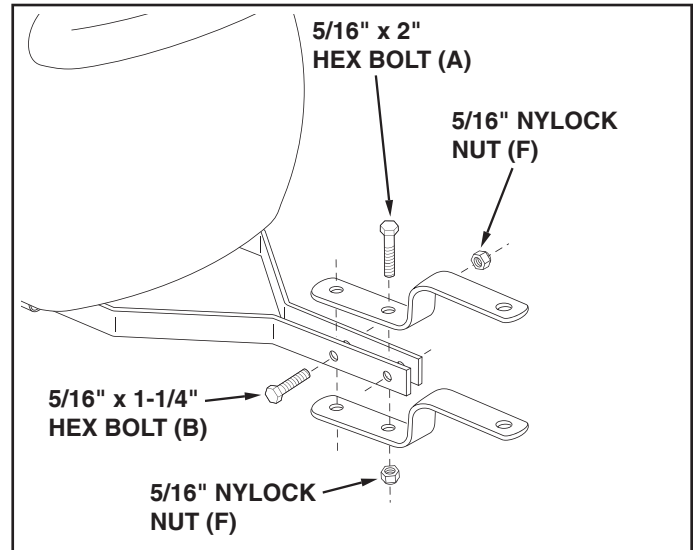

FIGURE 4
STEP 4: (SEE FIGURE 4)
- Fasten the ends of the hitch arms together using two 5/16" x 1-1/4" hex bolts (B) and 5/16" nylock nuts (F). **Do not tighten yet.**
- Assemble the hitch brackets to the hitch arms using two 5/16" x 2" hex bolts (A) and 5/16" nylock nuts (F). Position each bolt behind a cross bolt in the hitch arms. **Do not tighten yet.**